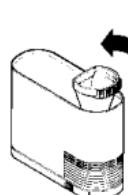

Figure 9
3. Rotate the misting chamber counter-clockwise approximately 1/8 turn (Figure 9) and lift to completely remove (Figure 10). Wipe the misting chamber with a damp cloth and some Clean-Away® solution following the precautions on the bottle. Rinse thoroughly (Figure 11).